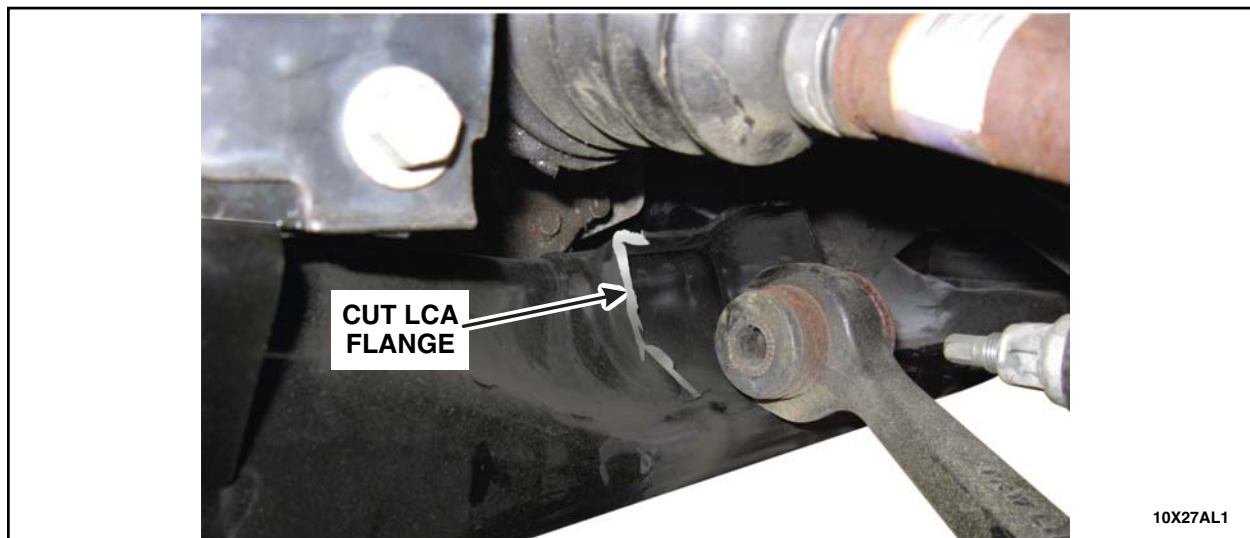

FIGURE 2
2. Using a 3M™ General Purpose Cut-Off Wheel or equivalent, cut the flanges in the marked areas. See Figure 2.